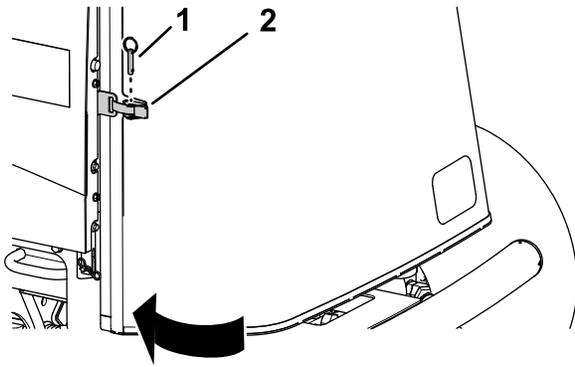

Figure 62
1. Close and latch the screen (Figure 62).